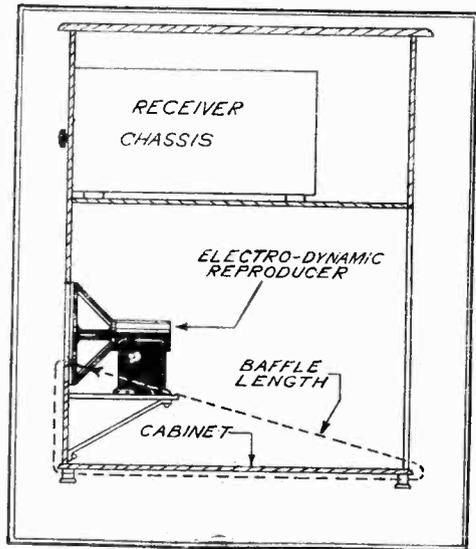

Fig. 3: How the front and sides of a cabinet act as baffle for the loud speaker.
*Below, Fig. 3: The elaborate transformer testing board, where all kinds of tests are made on the various power units used in kits and sets. The bank of resistors at the left is used to duplicate "loads" such as would be encountered in actual practice.*
Where receiver and speaker are both mounted in a cabinet together, the front and sides of the cabinet may be made to act as a baffle, as shown in Fig. 3. No additional baffleboard is then required.